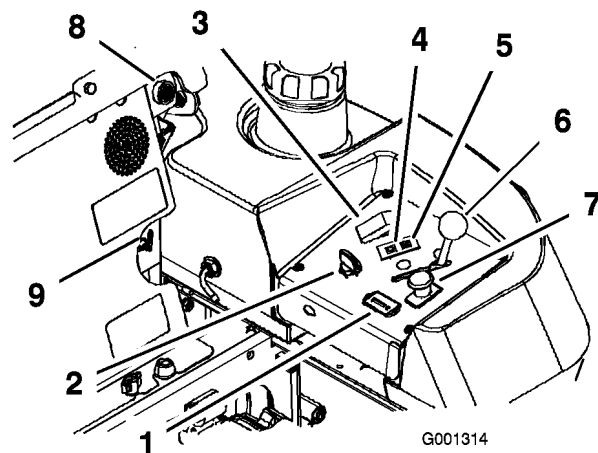

Figure 12
4. Move the PTO (power take off) switch to the off position (Figure 12).